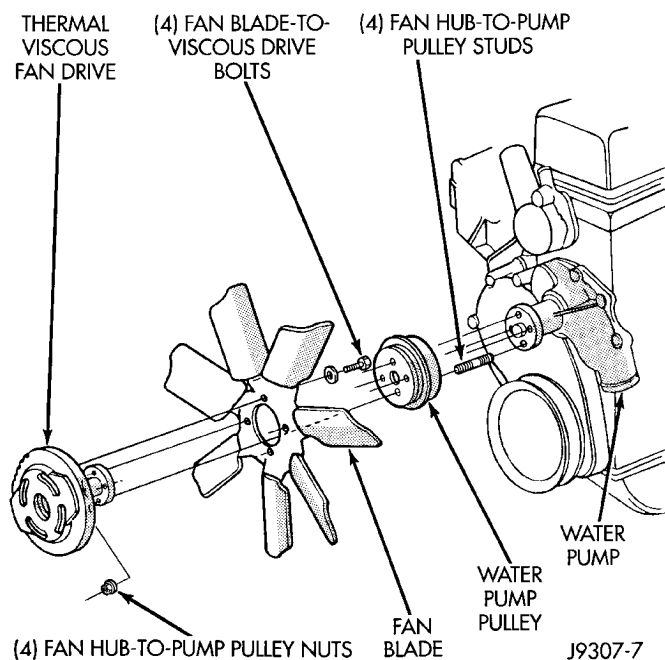
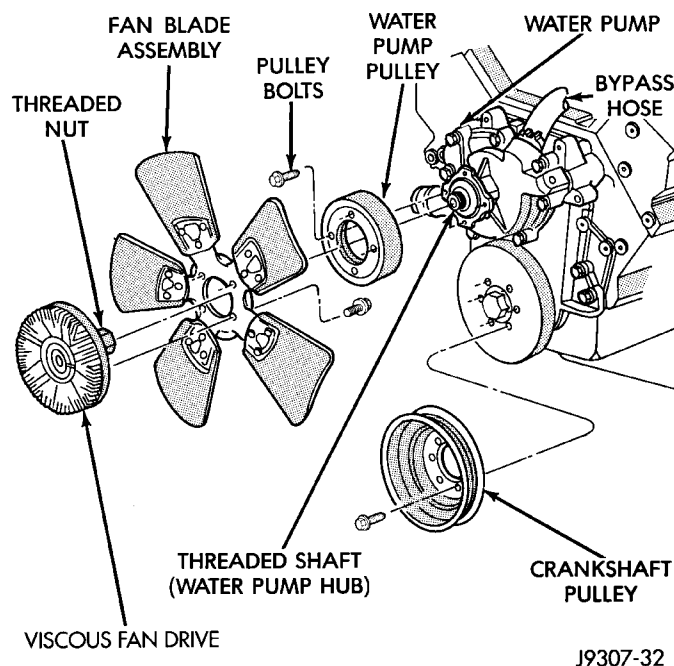

Fig. 46 Fan Mounting Nuts—4.0L 6-Cyl. Engine
Fig. 47 Fan Blade and Viscous Fan Drive—5.2/5.9L V-8 Engines
- (1) Disconnect the negative battery cable at battery.
- (2) Observe the previous WARNINGS and CAUTIONS.
- (3) Drain coolant from radiator. Refer to Draining Cooling System in this group.
- (4) **4.0L Engine:** Remove the four fan hub-to-water pump pulley mounting nuts (Fig. 46). Carefully remove the fan assembly from the water pump pulley and position to center of fan shroud. Fan belt removal is not necessary as the water pump studs will hold the pump pulley in position.
- (5) Do not remove fan/viscous fan drive assembly from vehicle at this time.
- (6) **5.2/5.9L Engines:** The thermal viscous fan drive is attached (threaded) to the water pump hub shaft (Fig. 47). Remove fan/viscous fan drive assembly from water pump by turning mounting nut counterclockwise as viewed from front. Threads on viscous fan drive are **RIGHT HAND**. A Snap-On 36 MM Fan Wrench (number SP346 from Snap-On Cummins Diesel Tool Set number 2017DSP) can be used. Place a bar or screwdriver between water pump pulley bolts (Fig. 47) to prevent pulley from rotating. Drive belt removal is not necessary for removal of fan drive.
- (7) Do not attempt to remove fan/viscous fan drive assembly from vehicle at this time.
(20) 4.0L Engine: Install the four nuts securing the fan assembly to the water pump (Fig. 46). Tighten nuts to 27 N·m (20 ft. lbs.) torque.
(21) 5.2/5.9L Engines: Install the fan/viscous fan drive assembly to the water pump.
(22) Rotate the fan blades (by hand) and check for interference at fan shroud.